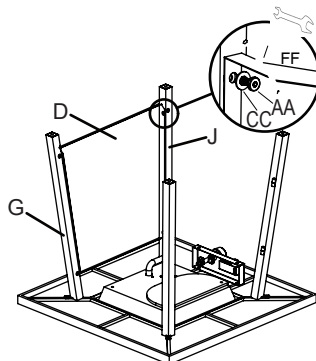

Figure 3
3. Insert panel (C/D/F) to back-left leg (G) and front-left leg (J) with bolts (AA) and washer (CC) using hex screw driver (DD), (see Figure 3).